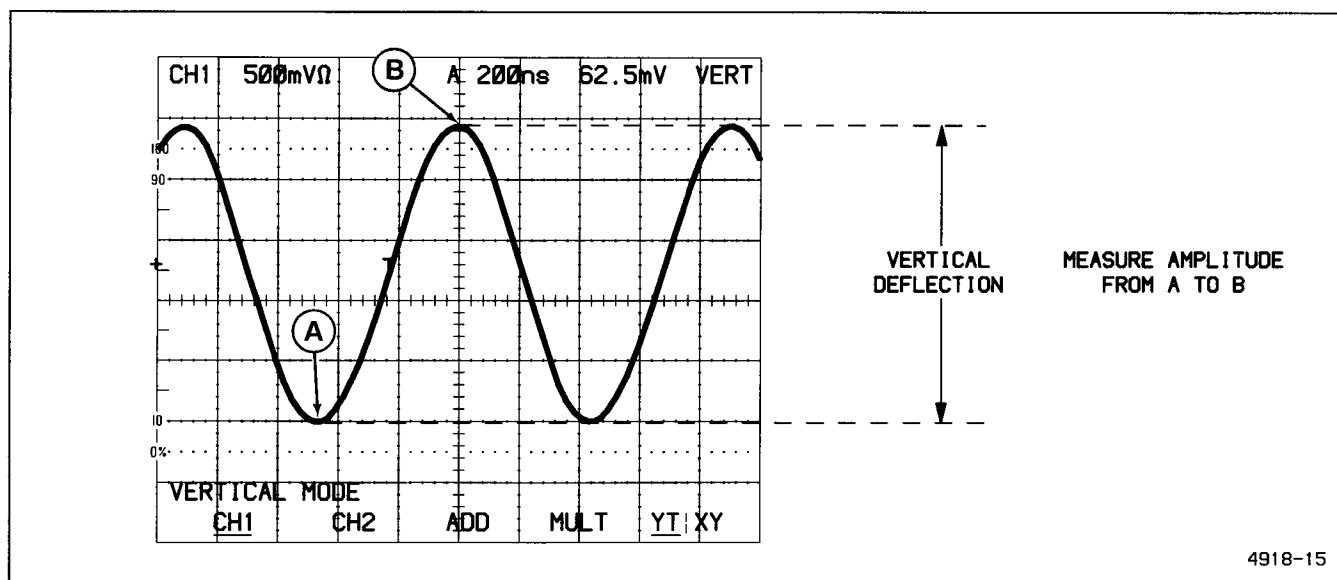

Figure 6-1. Sine wave peak-to-peak voltage.
2. Vertically position the waveform so that its negative peaks are aligned to a horizontal graticule line (see Figure 6-1).
Example calculation for the waveform pictured in Figure 6-1: